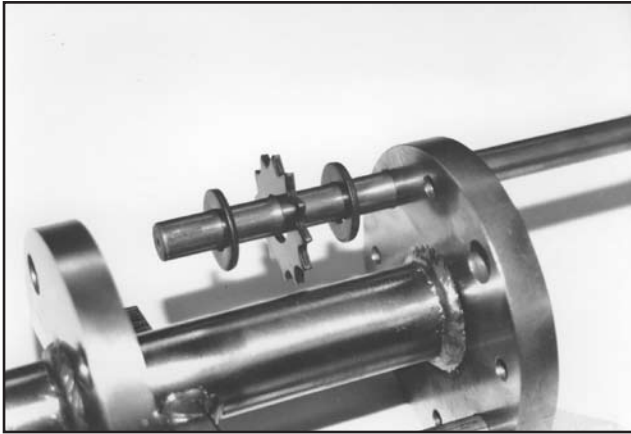

FIGURE 15
2) Install a spacer washer next to the outside side plate of the wide section. Next, install a flail. Follow with a spacer washer and continue the sequence until the section is full. FIGURE 15.